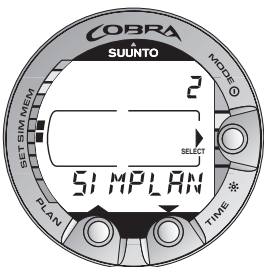

Fig. 4.19. Dive Planning Simulator mode. [2 SIMPLAN].
- The DIVE PLANNING SIMULATOR (Fig. 4.19.).
To enter the Dive Planning Simulator mode select MODE- 2 SIMUL- 2 SIMPLAN (Fig. 4.19.).